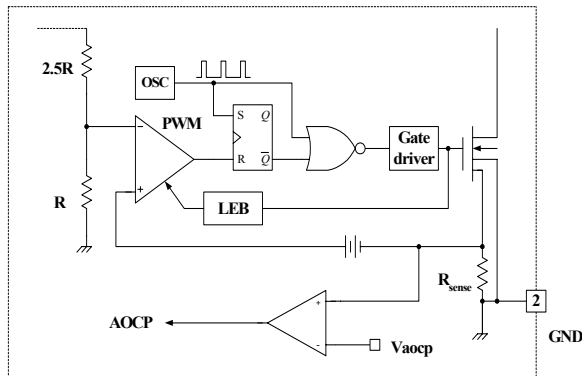

Figure 9. AOC block
**3.2 Abnormal Over Current Protection (AOCP) :** When the secondary rectifier diodes or the transformer pins are shorted, a steep current with extremely high di/dt can flow through the SenseFET during the LEB time. Even though the FS7M-series has OLP (Over Load Protection), it is not enough to protect the FPS in that abnormal case, since sever current stress will be imposed on the SenseFET until OLP triggers. The FS7M-series has an internal AOCP (Abnormal Over Current Protection) circuit as shown in Figure 9. When the gate turn-on signal is applied to the power Sense FET, the AOCP block is enabled and monitors the current through the sensing resistor. The voltage across the resistor is then